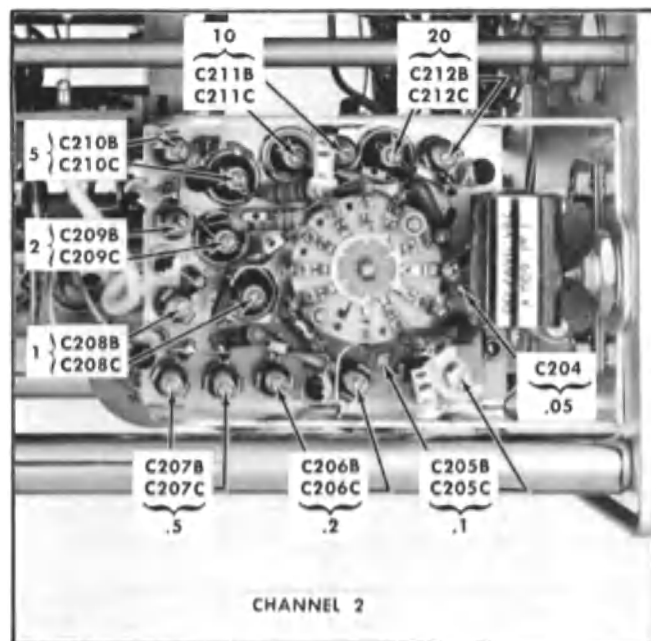

Fig. 7-28. Location of Channel 2 input shunt capacitance and attenuator adjustments associated with the VOLTS/CM switch position.
- l. Using Table 7-2 and steps 21g through 21i as a guide, check and adjust, if necessary, the input shunt capacitance and the attenuator compensation adjustments for Channel 2. Fig. 7-28 shows the physical location of each Channel 2 adjustment.